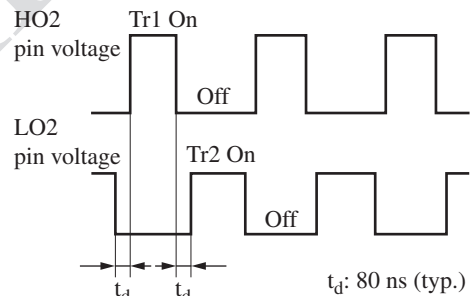

Figure 15
- The PWM output voltage is supplied from HO2 pin (pin 22) and LO2 pin (pin 19) to drive FET Tr1 and Tr2 respectively. Both pin voltages are as shown in figure 15.
- As same as the case of voltage step-up, the PWM output voltages given from HO2 pin (pin 22) and LO2 (pin 19) are provided with the quiescent period  $t_d$  in which both become Off state as shown in figure 15. This is provided for the prevention of simultaneous turning on of Tr1 and Tr2.